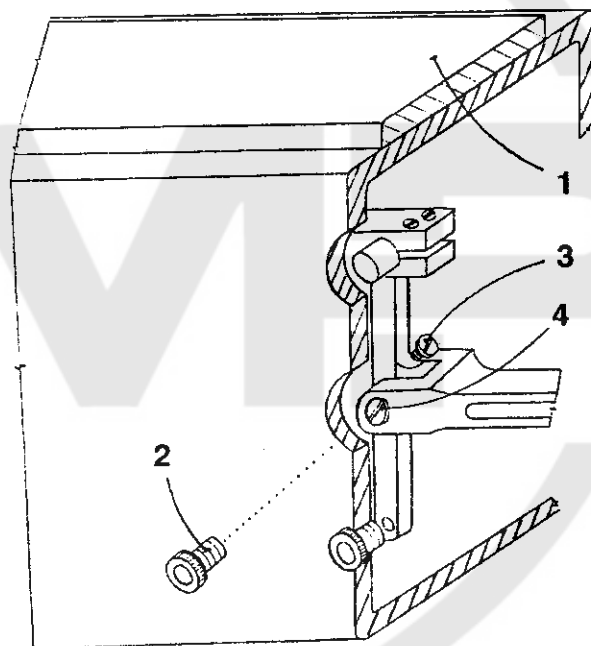

Figure 11
17. To adjust the needle punches transversely into the centre of the slot of the throat plate (Fig. 11)